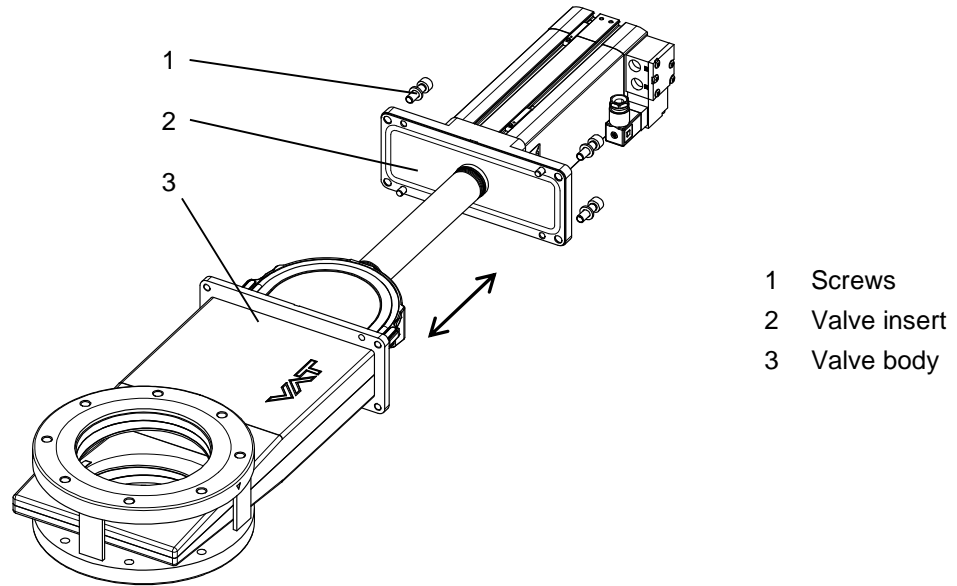

Figure 6-1
5. Remove screws (1); see «Figure 6-1» on page 17.
6. Pull out valve insert (2) from valve body (3); see «Figure 6-1».